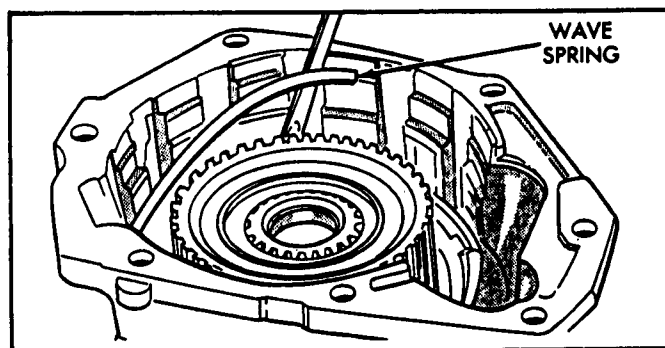

Figure 31
44. Install the WAVE snap ring on top of the FLAT snap ring, and into the same groove, as shown in Figure 31, ensure that it is fully seated.